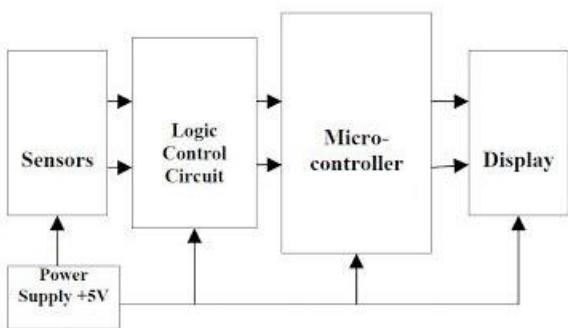
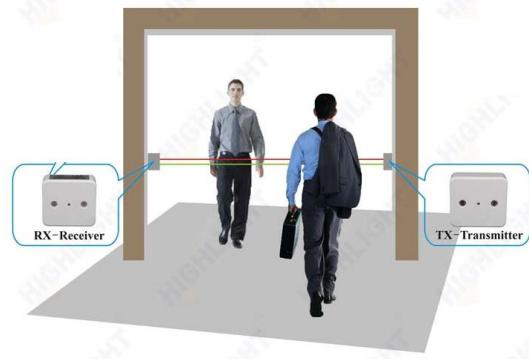

Figure-1: Block diagram of Bi-directional Visitor counter
Figure-2 Illustration of sensor setup of Bi-directional visitor counter
12.	<p>Design and Simulate PISO Shift Register and Up/Down Counters</p> <p>(a). In many communication systems, Serial data transmission is preferred for long distance communication due to its economical value in terms of the wires used. This necessitates parallel-to-serial conversion at the sender-end for which shift registers can be used. Design and implement the suitable 4-bit parallel to serial converter logic circuit for the given requirement using appropriate flip-flop. (Hint: PISO)</p> <p>(b). A Microcontroller based bidirectional visitor counter is shown in figure-1 to count the number of visitors to the college library. Depending upon the signal from the IR sensors, this system detects the entry and exit of the visitor. Figure-2 shows sensor setup at the library entrance for bidirectional visitor counter. The logic control circuit block shown in figure – 1 keeps the record on of number of visitor entered and number of visitor exited. Microcontroller calculate number of person present in the library by subtracting number of people exited from number of people entered. Then, it displays the number of visitors present in the library on the display device-using microcontroller. For simplicity assume the system can count maximum of 16 people. (Hint: 4-bit up/down counter)</p>